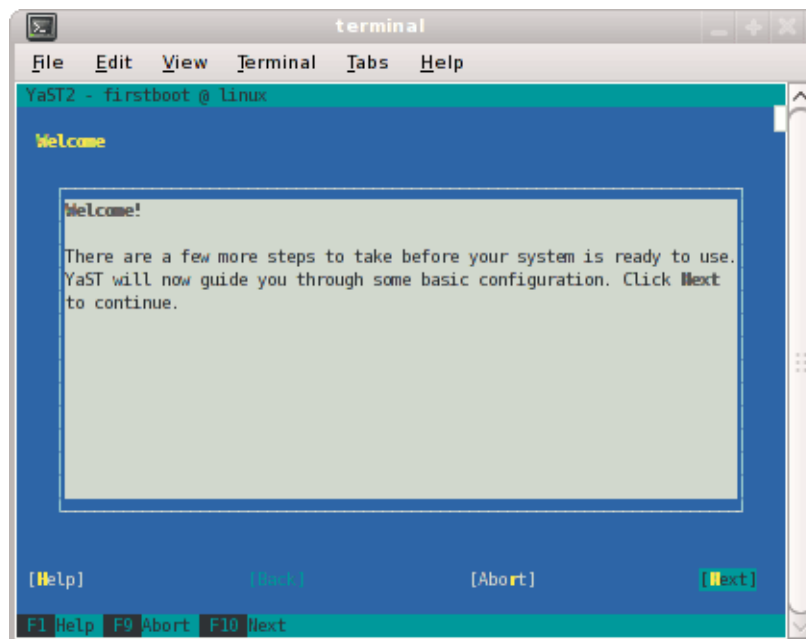

Figure 1-9 YaST2 - firstboot@Linux Welcome Screen
4. After the reboot completes, you will eventually see the **YaST2 - firstboot@Linux Welcome** screen, as shown in Figure 1-9 on page 16. Select the **Next** button to continue.